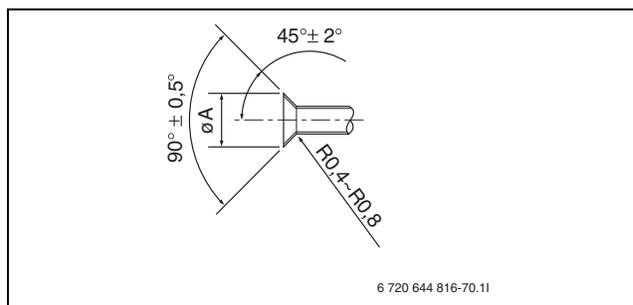

Fig. 20 Angle flange, refrigerant pipe
- ▶ Crimp the pipe (→ fig. 20 and table 5).